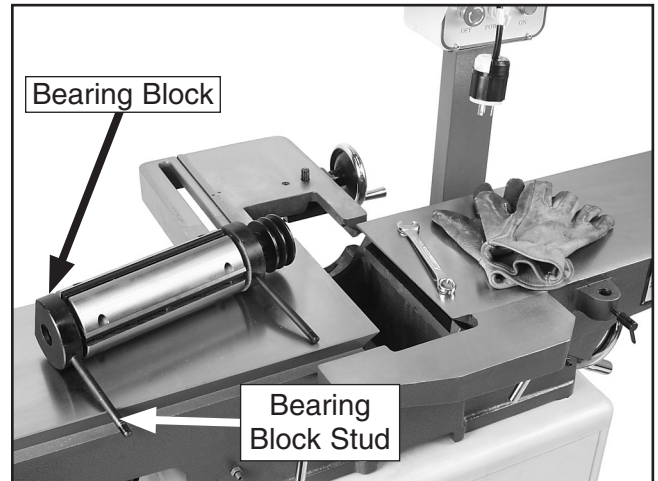

Figure 5. Cutterhead removed.
6. Wearing heavy leather gloves, carefully remove the cutterhead from the casting (see **Figure 5**).